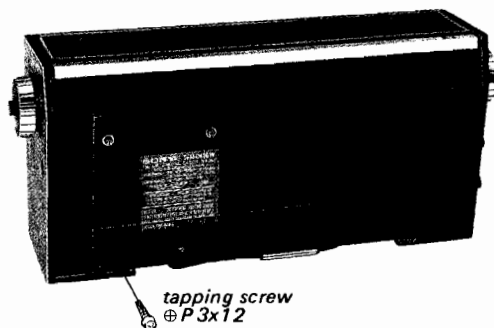

Fig. 2-3
3. Remove the three screws shown in Fig. 2-3 and remove the upper cabinet.